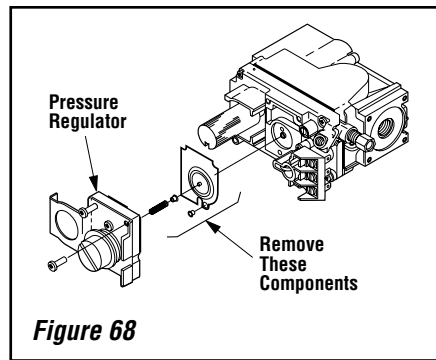

Figure 68
Step 4. Refer to **Figure 68** and the instructions provided with the kit. Using a Torx T20, remove and discard the three pressure regulator mounting screws. Remove the pressure regulator, spring, poppet, diaphragm and bushing. **Discard all removed components.** Ensure the rubber gasket installed on the back of the replacement pressure regulator is properly positioned and install the new pressure regulator using the new screws supplied with the kit. Tighten screws to 25 In. lb. torque.